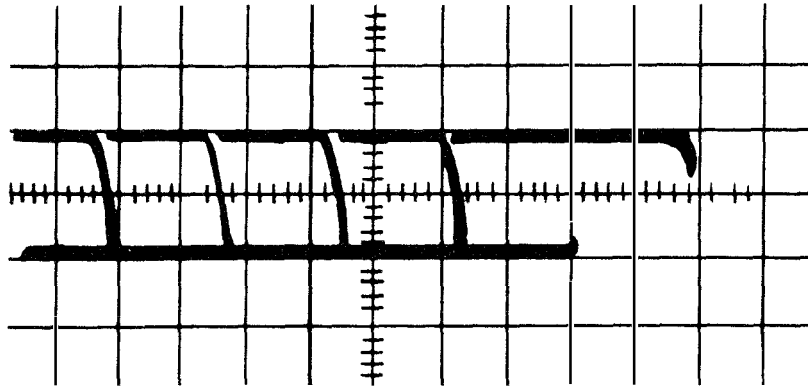

Figure 5.2 Waveform Method II
2. Insert a test tape containing alternate R's and Y's in the TD. Start the TD and adjust the oscilloscope controls to obtain a stationary display, including a complete character having marking and spacing levels arranged symmetrically with respect to its base line. A sweep rate of approximately 5 ms per cm will display one character. A display similar to that shown by Figure 5.2 should be obtained.